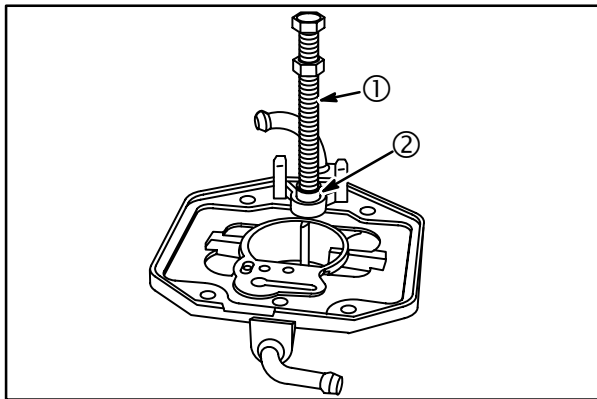

**Fig. 103**
14. Mark choke plate before removal to ensure re-installation in the original position. Top and bottom edges are beveled. Remove screws (27) and choke plate (28), Fig. 103.
15. Remove retainer (29).
16. Remove choke shaft (23) and spacer (24).
17. Remove seals (25).
**NOTE:** Carburetor body has a ball and spring (26) that keeps tension on choke shaft. Use care when removing choke shaft.